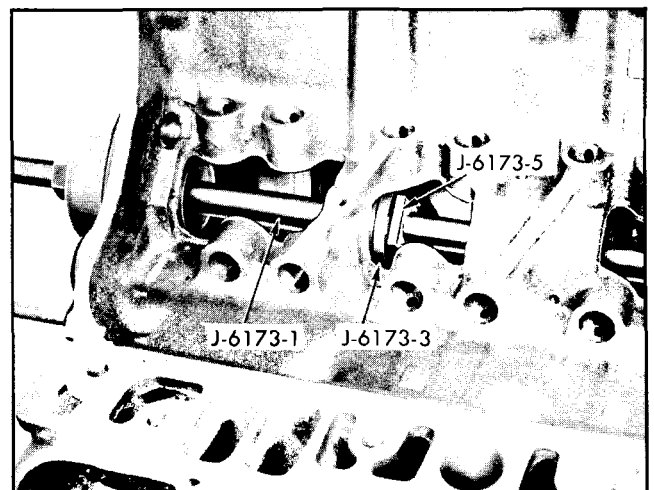

Fig. 6-132 Removing Camshaft Bearing
- e. Slip key J 6173-5 into notches in shaft behind bearing to be removed (Fig. 6-132).